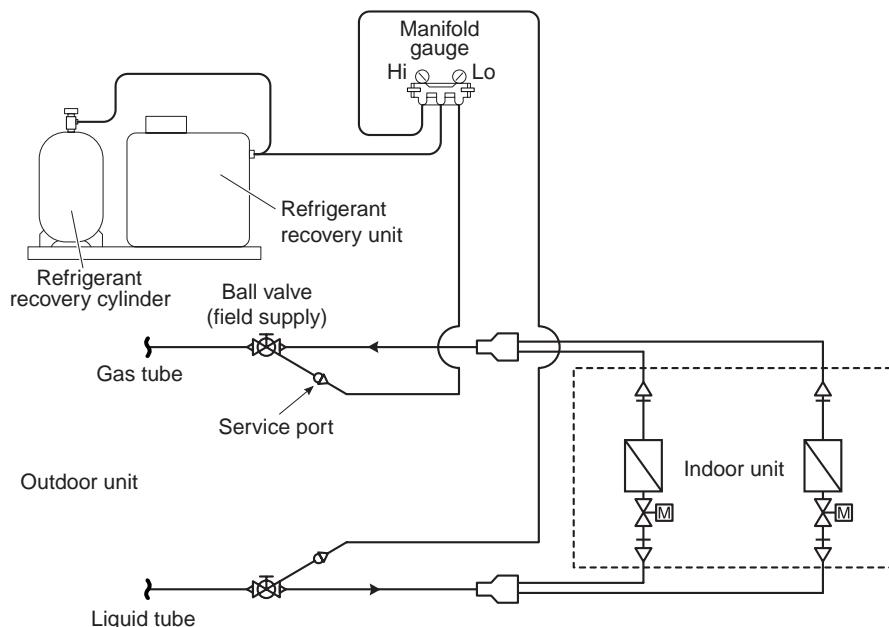

Fig. 3
- (1) If a ball valve with a service port has been provided in the indoor unit as shown in Fig. 3, follow the instructions given in (2) through (6) below. If the service port is instead located in the outdoor side, follow the instructions in "3-2-3. Refrigerant recovery procedures (2)."
- (2) After running the unit in Cooling mode for about 5 minutes as described in "3-2-1. Cooling operation (for all units)," fully close the liquid tube ball valve.
- (3) Run the unit in Cooling mode for 10 to 20 minutes more.
- (4) Fully close the gas tube ball valve, and stop the operation of all units.
- (5) Use hoses to connect the manifold gauge valves, refrigerant recovery unit, and refrigerant recovery cylinder with each other. (Fig. 3) Do each connection quickly to prevent air from entering the tubing.
- (6) Recover the remaining refrigerant from the indoor unit using the refrigerant recovery unit.